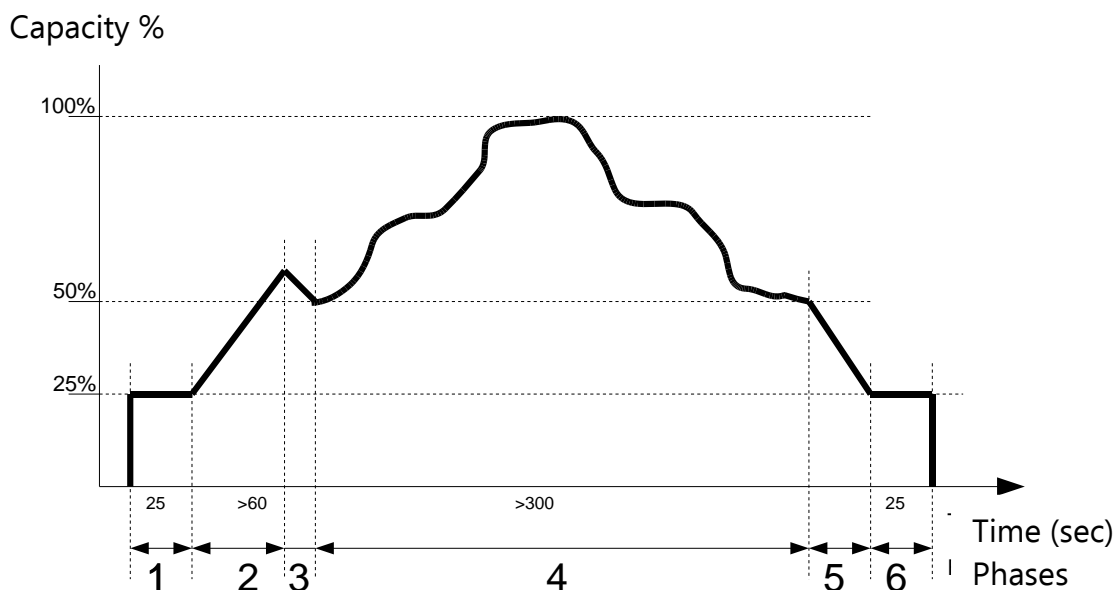

Fig. 21 Logic control of solenoid valves for stepless configuration
Cooling capacity control is obtained using solenoid valves (14),(15) and (19) which have to be excited according to logic control shown in Fig. 21 and Table 8.